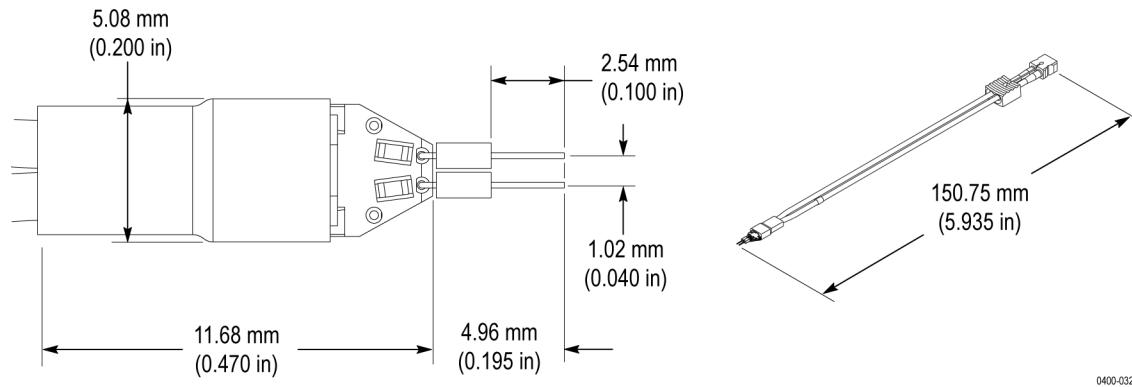

**Figure 54: PCI Express Compliance Load Board (CLB1)**
**NOTE.** The TLA7SAxx modules support capturing unidirectional traffic such as compliance mode. If only one agent is present on the bus then the system must provide termination of the bus that meets the PCIe receiver specifications. This can be implemented as on board termination or using a slot termination board such as the PCI Express Compliance Load Board (CLB1). (See Figure 54.)